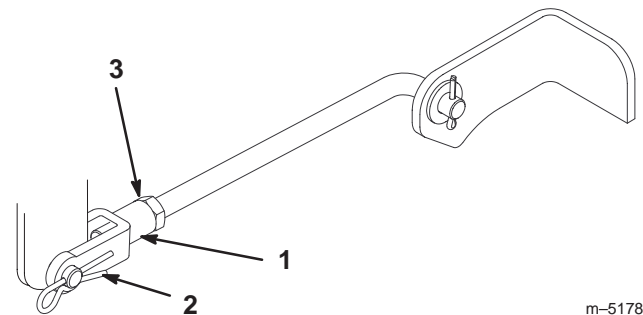

Figure 41
7. To adjust the front-to-rear blade slope, remove the hairpin cotter from the front trunnion yokes and loosen the jam nuts (Fig. 41).
8. Rotate the yokes on the rods to change the adjustment (Fig. 41). To raise the front of the mower, tighten the yokes (shorten the rods). To lower the front of the mower, loosen the yokes (lengthen the rods).